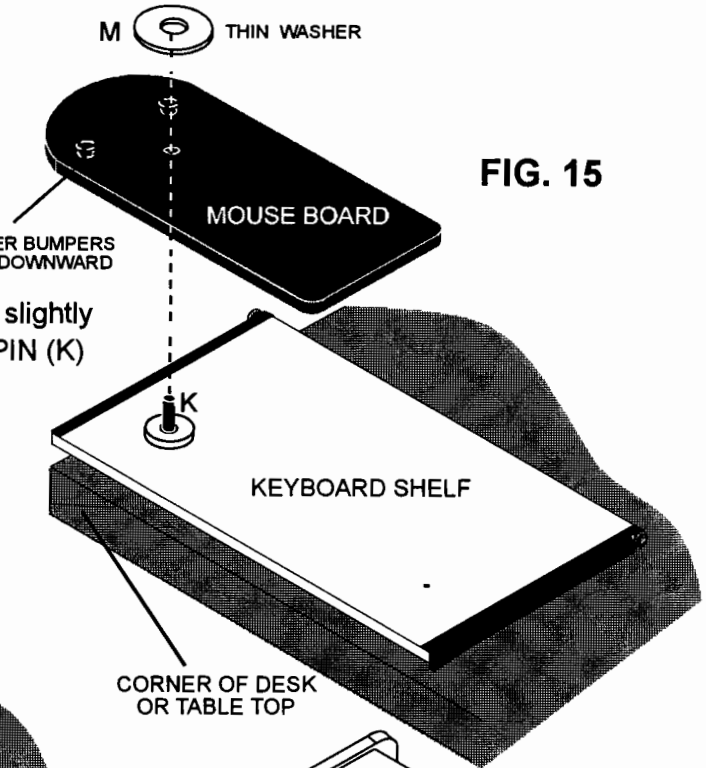

FIG. 15
Insert PIN (K) through top surface of KEYBOARD SHELF. FIG. 14 **NOTE:** LOT LABEL references underside of KEYBOARD SHELF. WHEELS on RAILS indicate back of KEYBOARD SHELF. Left hole selection as shown mounts MOUSE BOARD in right hand position. Select other hole for left hand position. Lay KEYBOARD SHELF (up-side down) on the corner of desk or table top to hold pin against SHELF surface. FIG. 15 **PROTECT DESK OR TABLE TOP.** Install THICK WASHER (L) as shown.
14. With MOUSE BOARD turned up-side down (RUBBER BUMPERS facing down), align and insert large hole onto PIN (K). Place THIN WASHER (M) over PIN. FIG. 15